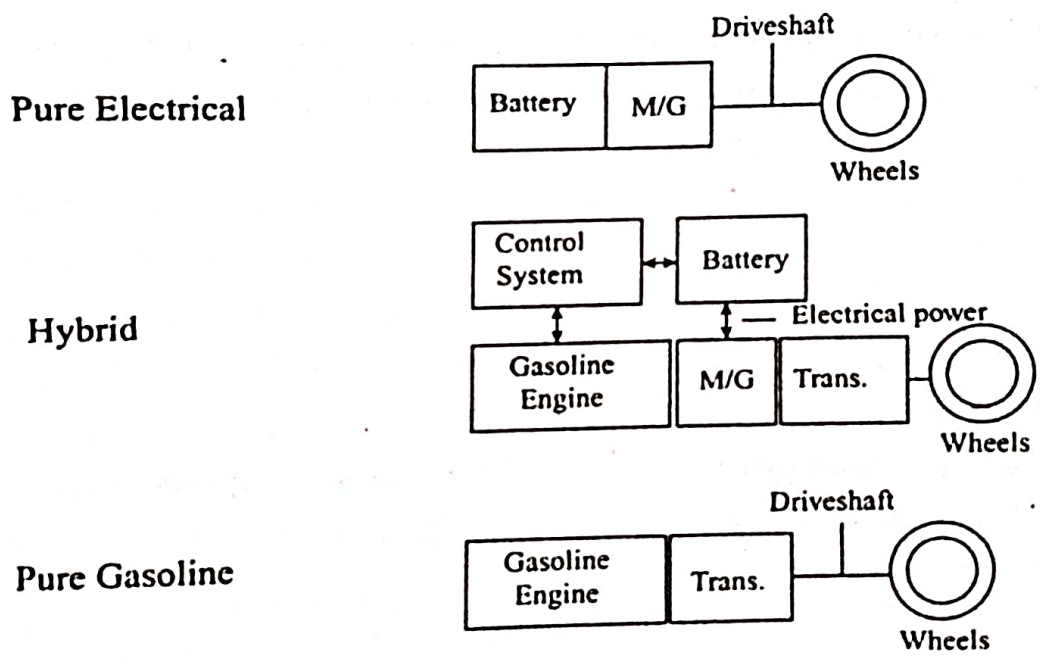

Fig. 2.54: Components of a hybrid vehicle that combines pure gasoline with a pure EV.
As shown in Fig. 2.54, a hybrid electric vehicle (HEV) is a fusion of components derived from both fully electric vehicles and traditional gasoline-powered vehicles. Just as an Electric Vehicle (EV) utilizes a Motor/Generator (M/G) to enable regenerative braking, an HEV also incorporates this M/G to facilitate regenerative braking. In HEVs, the M/G is typically positioned directly behind the internal combustion engine. In the case of Honda hybrids, the M/G is directly connected to the engine.